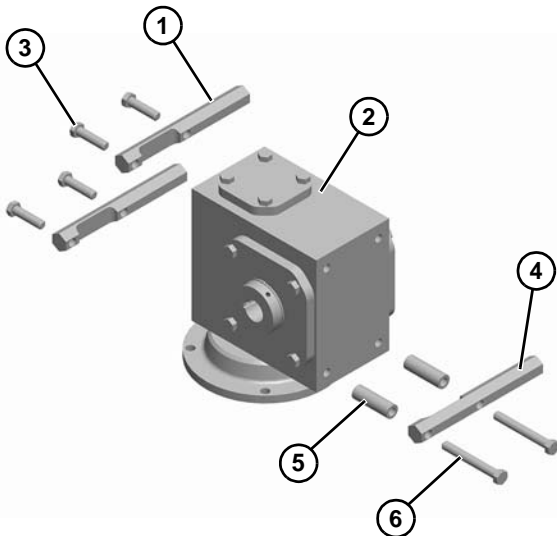

Figure 18
1. Install two hex bars (Figure 18, item 1) to the gear reducer (Figure 18, item 2) with four hex head cap screws (Figure 18, item 3).
2. Install one hex bar (Figure 18, item 4) to the gear reducer with two spacers (Figure 18, item 5) and two hex head cap screws (Figure 18, item 6).